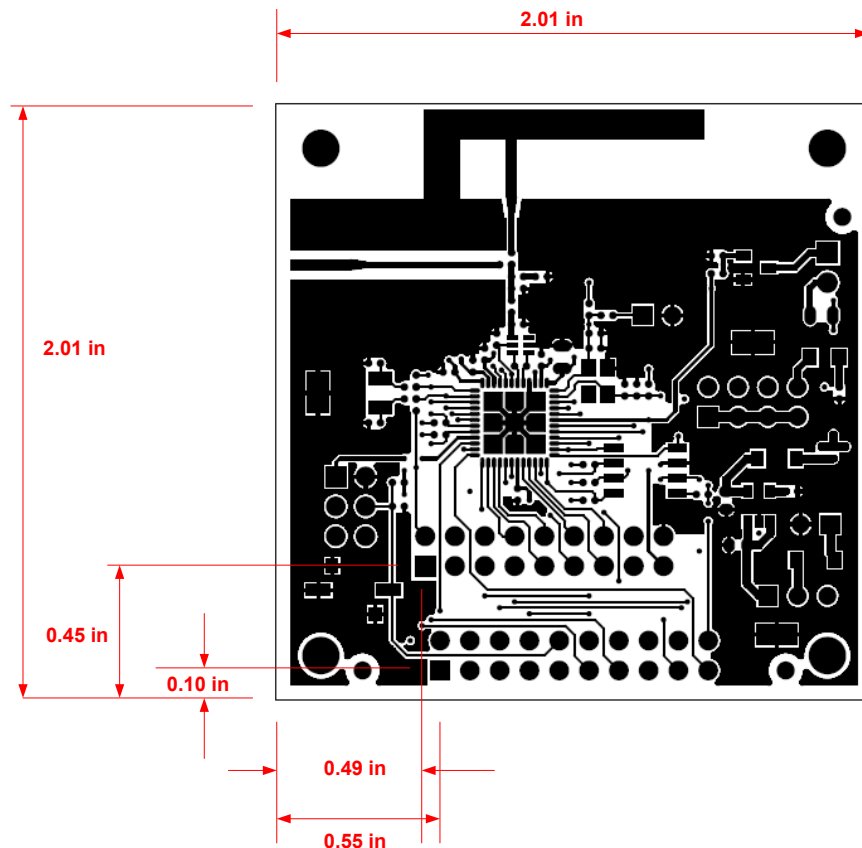

Figure 3-2. 1323x-MRB Top Side (Component Side) Footprint
Figure 3-2 shows a footprint of the 1323x-MRB with the location of the IO Headers J2 and J3. The user may desire to create a motherboard on which the 1323x-MRB would be mounted, and headers J2 and J3 are used for connection to the motherboard:
- It is recommended that 1323x-MRB be located such that it extends beyond edge of the motherboard (see Figure 3-2) so that the entire F-Antenna is exposed with no motherboard ground or voltage plane beneath it. This is to allow best results transmitting and receiving with the radio.
- With the 1323x-MRB oriented as shown in Figure 3-2, the IR blaster transmits to the right.
The 1323x-MRB is built around Freescale's MC1323x 48-pin LGA IEEE 802.15.4 platform. Figure 3-2 shows a simple block diagram. This board is intended as a simple evaluation platform and as a building block for application development. The 4-layer board provides the MC1323x with its required RF circuitry, 32 Mhz reference oscillator crystal, and power supply bypassing. The layout for this base level functionality can be used as a reference layout by the user target board.